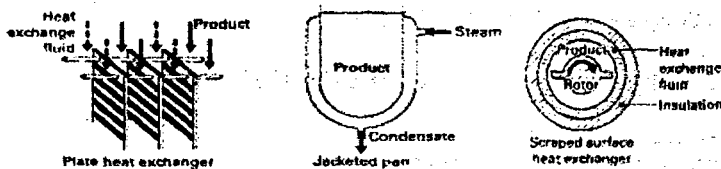

Figure 2 – Different types of heat exchangers
**Plate heat exchanger.** Another popular heat exchanger for fluids of low viscosity, such as milk, is the plate heat exchanger, where heating and cooling fluids flow through alternate tortuous passages between vertical plates as illustrated in figure 2. The plates are clamped together, separated by spacing gaskets, and the heating and cooling fluids are arranged so that they flow between alternate plates. Suitable gaskets and channels control the flow and allow parallel or counter current flow in any desired number of passes. A substantial advantage of this type of heat exchanger is that it offers a large transfer surface that is readily accessible for cleaning: in fact the banks of plates are usually arranged so that they may be taken apart easily.